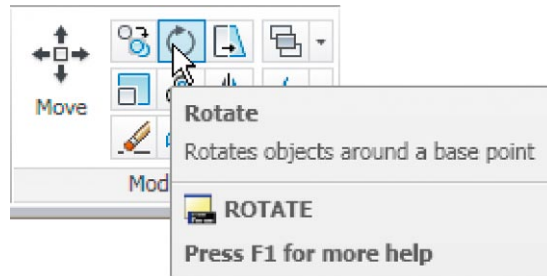

Fig. 5.26 The **Rotate** tool icon from the **Home/Modify** panel
2. Call **Rotate** – *left-click* on its tool icon in the **Home/Modify** panel (Fig. 5.26), *pick Rotate* from the **Modify** drop-down menu or *enter ro* or *rotate* at the command line. The command line shows: and the first copy rotates through the specified angle.